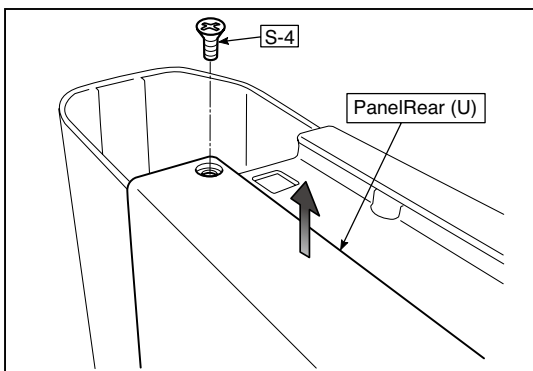

Fig.24
- 1.Remove the "S-4" screws shown in the figure 24 and then remove the Panel Rear (U).